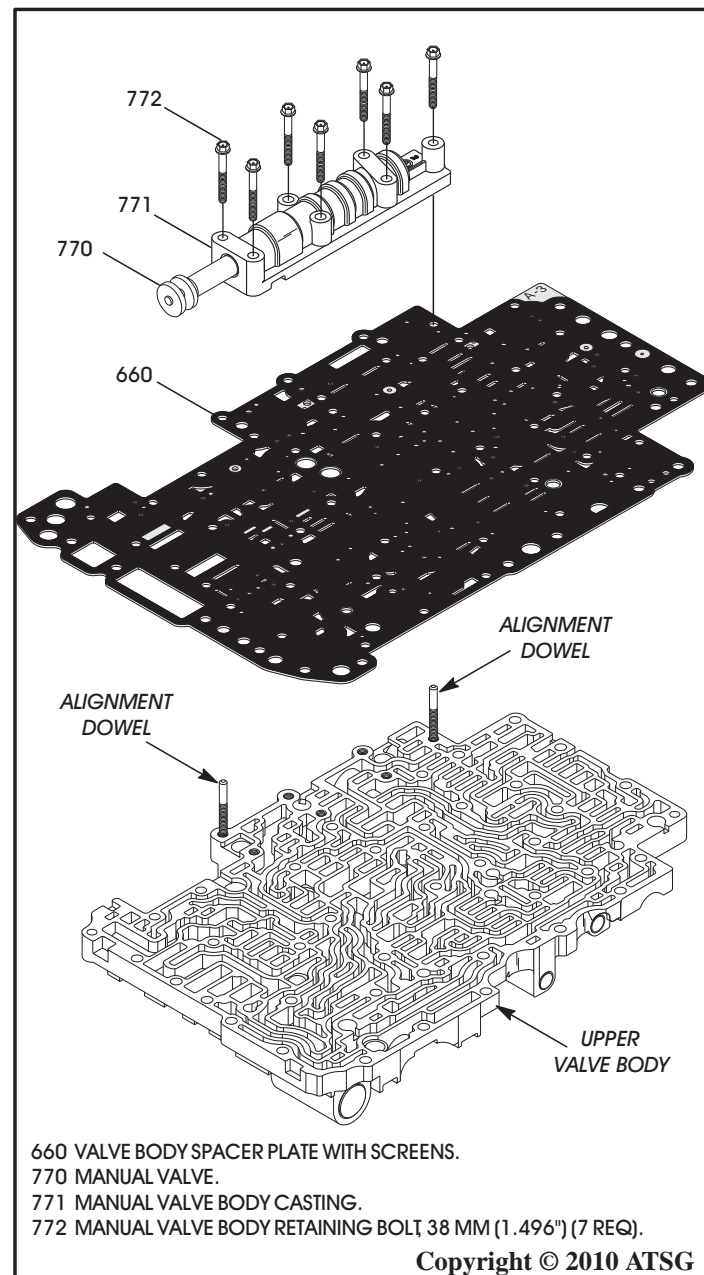

Figure 179
21. Lay the upper valve body on a flat work surface with the worm track side facing up, as shown in Figure 179.
22. Install two alignment dowels in the upper valve body in the positions shown in Figure 179.
23. With all small parts in their proper positions in the upper valve body, install spacer plate over alignment dowels and onto the upper valve body, as shown in Figure 179.
24. While holding the spacer plate down against spring pressure, install the manual valve body and manual valve over alignment dowels, as shown in Figure 179, and install four retaining bolts in the center and "snug" them down.